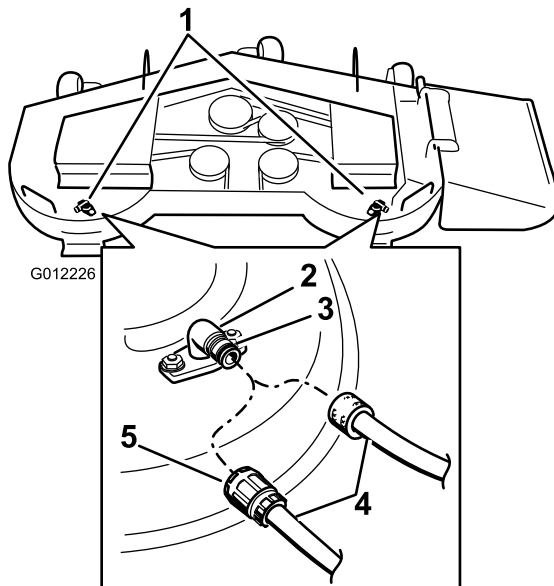

Figure 67
3. Attach the hose coupling to the end of the mower washout fitting, and turn the water on high (Figure 67).